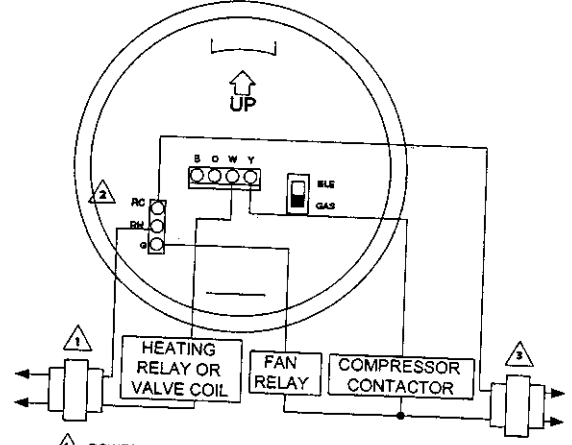

Fig 11. Typical hookup of ES100 in heat-cool system with two transformers.
- Fig. 11 - Heat-cool with two transformers